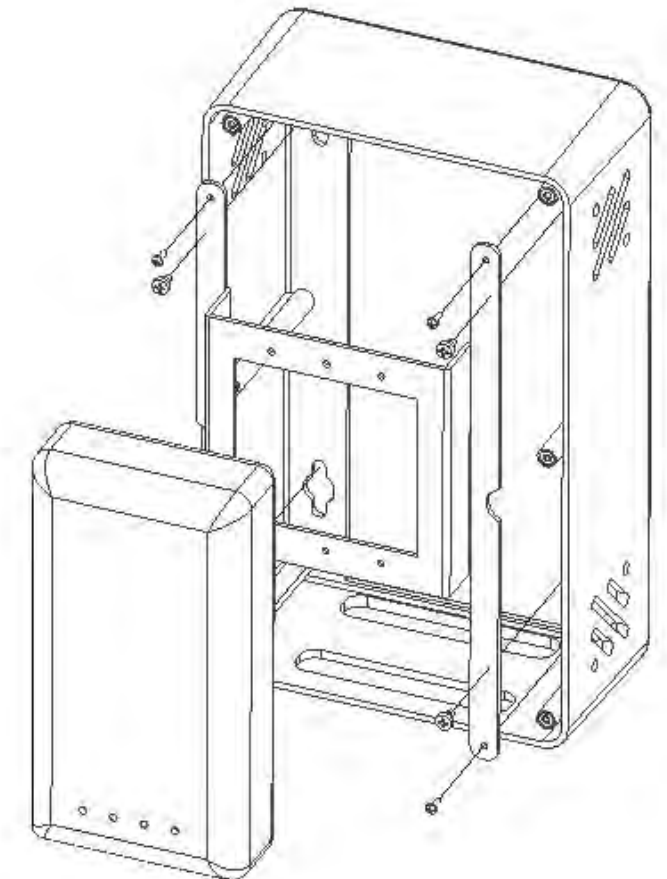

Figure 3 – Access Point Install To Mounting Bracket
Step 4 – Fasten the AP Mounting Bracket to the enclosure embosses using the provided #2 screws. If a surface mount box is installed, attach the patch cord from the surface mount box to the access point. Otherwise, attach the Ethernet cable directly to the access point through the bottom cutout and attach the access point to the AP Mounting Bracket using the manufacturer's specified mounting plate (Figure 3).